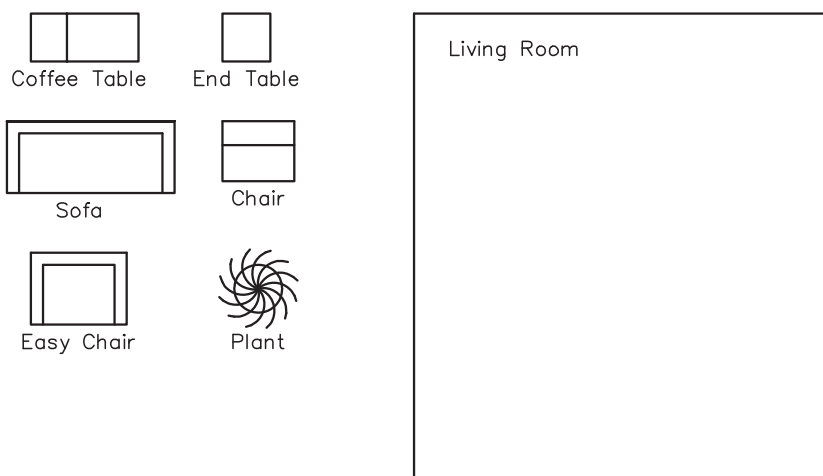

Fig. 33-4
2. Begin a new drawing named **livroom.dwg**. Draw the furniture representations shown in Fig. 33-4 and store each as a block. Then draw the living room outline. Don’t worry about exact sizes or locations, and omit the text. Insert each piece of furniture into the living room at the appropriate size and rotation angle. Feel free to create additional furniture and to use each piece of furniture more than once. This file is also available on the OLC for this book, in the Drafting & Design Problems section, as **livroom.dwg**.